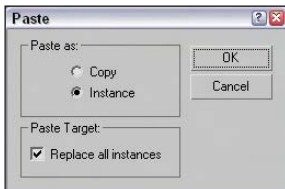

Figure 7-17: This Paste dialog lets you replace all instances.
5. Click one of the Ring Array dummy objects, and the Track View locates the Box object that is part of the Ring Array. Then right-click and select the Paste command from the pop-up menu. This opens the Paste dialog, shown in Figure 7-17. Select Instance and the Replace all Instances option, and click OK.